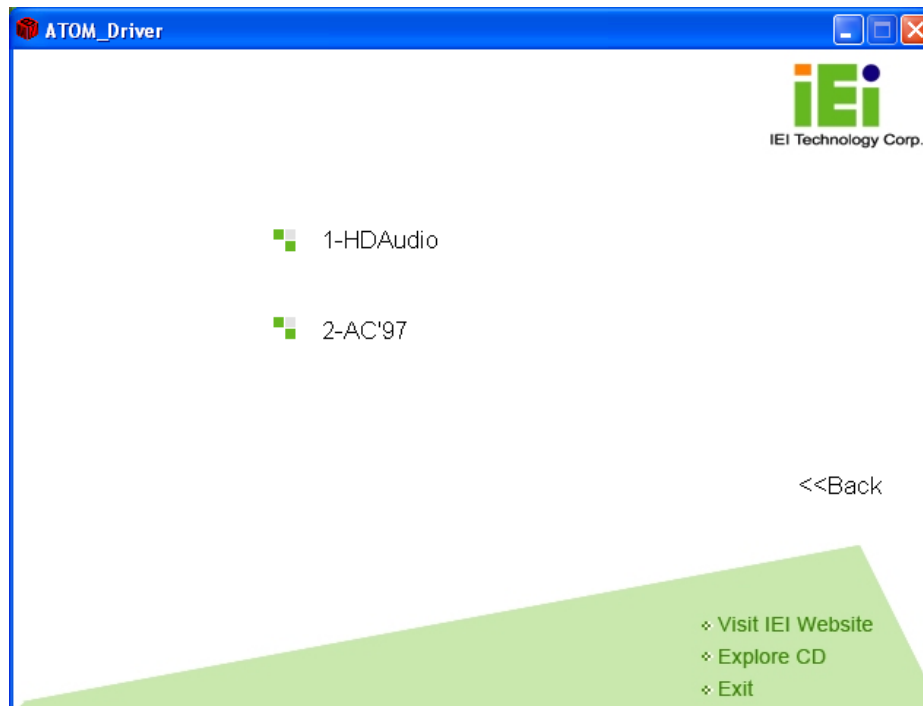

Figure 7-21: Audio Driver Options
Step 3: The screen in Figure 7-21 appears.
Step 1: Select “1-HDAudio” in Figure 7-21.
Step 1: Select "2-AC'97" in Figure 7-21